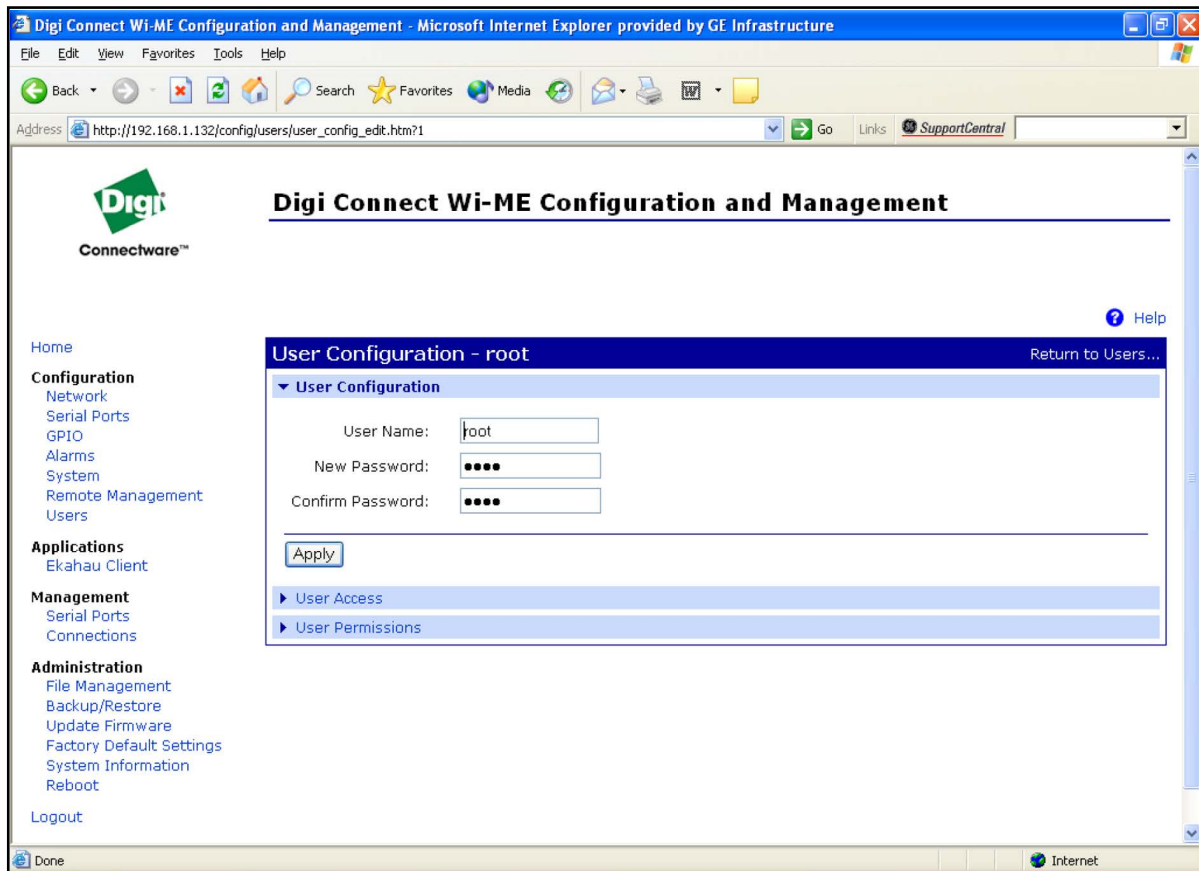

Figure 35: Changing the User Name and/or Password
5. Click on **New...** *Figure 35 on page 64* appears.